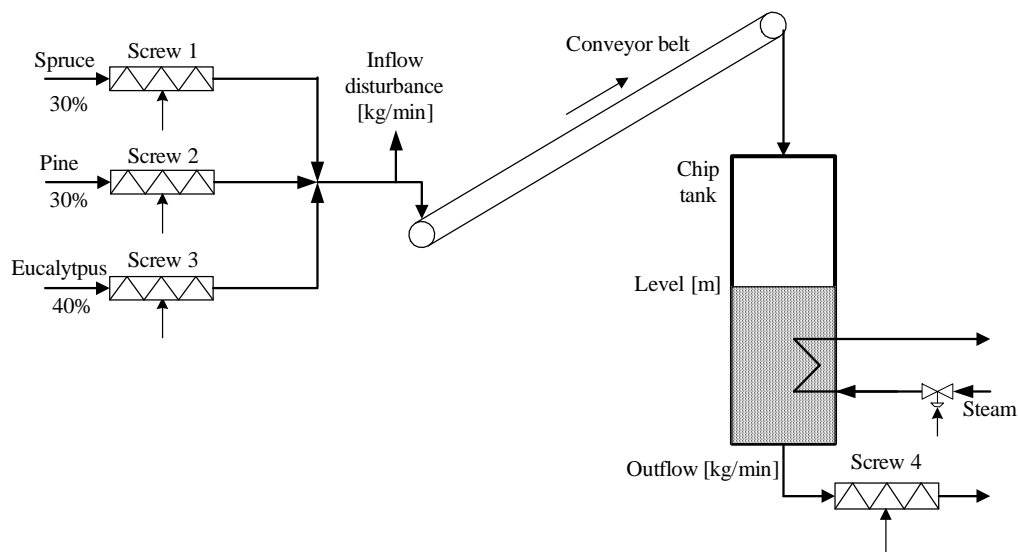

Figure 11.5:
Figure 11.5 shows a wood-chip tank, which is in the beginning of the pulp & paper production line. Spruce, pine and eucalyptus are used as feeds into the tank, via a conveyor belt. The percentages of each of these flows are indicated in Figure 11.5. There is a flow disturbance before the belt which is due to sieving the chip flow to remove large parts of chip.
- The total chip flow into the belt is splitted into percentage flows shown in Figure 11.5. The splitting can be represented with a block with total control signal (100%) as input and three flow value outputs (30%, 30% and 40% respectively). The flows out of the three inflow screws are flow controlled.